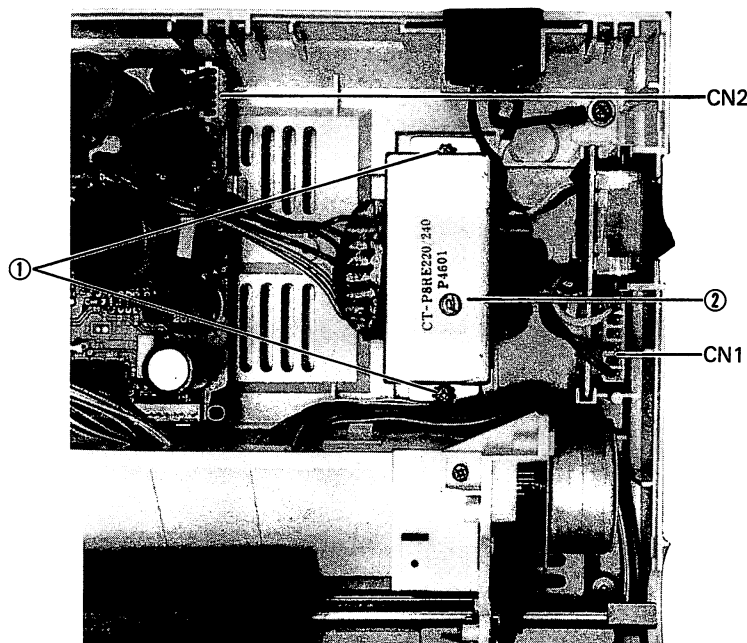

Fig. 4-4. Power Transformer Removal
4.2.4 Power Transformer Removal (Fig. 4-4)